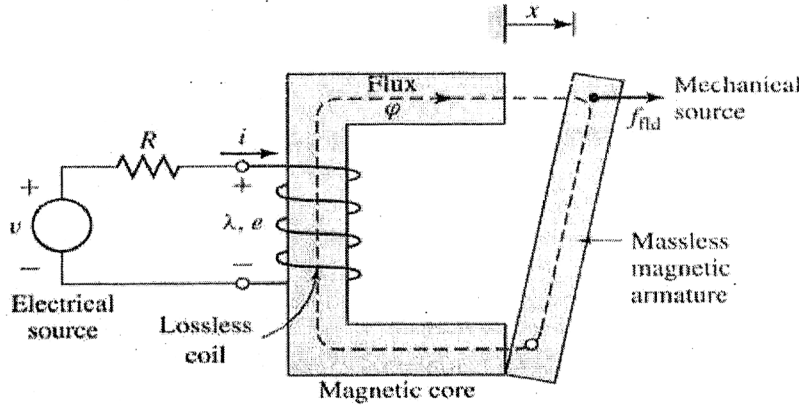

Fig.1
1. a) Consider the operation of an electromagnetic relay shown in fig.1, where one winding is mounted on a stationary member of iron and a movable member of iron is attached to a wall of the relay by a spring on one side. Now draw and explain this relay and show that the energy converted to mechanical form equals the area between the two magnetization characteristics (flux vs. mmf) respectively for the open position and closed position with respect to movement of the plunger. Assume the necessary parameters for the system concerned.
- b) Derive the expressions for mechanical force in terms of field energy and co-energy if the plunger shown in fig.1 is allowed to move an infinitesimal distance in the direction of magnetic force acting upon it. **10+6=16**
2. In an electromagnetic relay shown in fig. 1, the exciting winding has 3000 turns. The cross-sectional area of the magnetic core is 30 cm × 30 cm. The reluctance of the magnetic circuit may be assumed to be negligible. Also neglect fringing effects.